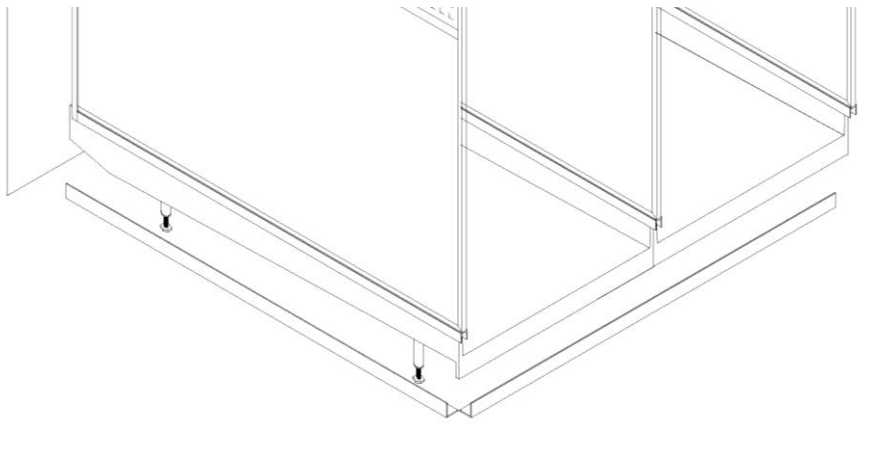

Fig. 40
2. Place aluminum angle supports along chalk lines to determine proper fitment. Some trimming of aluminum angle supports using a 4 1/2" Angle Grinder w/Abrasive Cutoff Wheel may be necessary to achieve proper fitment, depending on individual application. See Fig. 40.